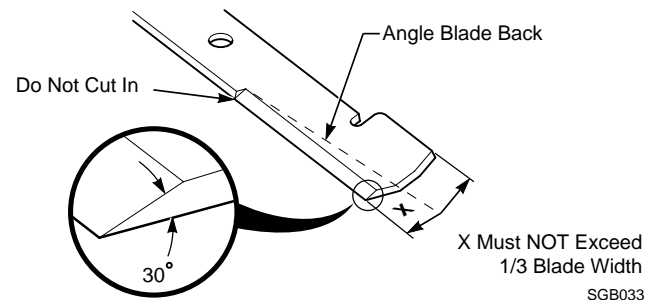

Figure 7-2. Blade Sharpening
DO NOT sharpen the blades beyond 1/3 of the width of the blade. See Figure 7-2.
1. Sharpen the cutting edge at the same bevel as the original. See Figure 7-2. Sharpen only the top of the cutting edge to maintain sharpness.